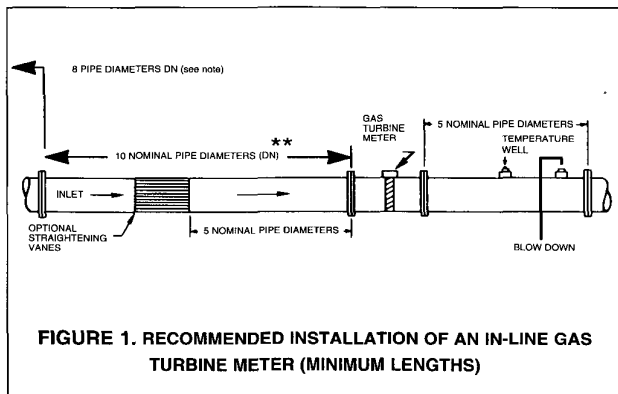

FIGURE 1. RECOMMENDED INSTALLATION OF AN IN-LINE GAS TURBINE METER (MINIMUM LENGTHS)
**1. Inline** - A minimum run of ten (10) pipe diameters (DN) of straight pipe must be used between any flow-altering device (other than flow throttling \*) and the inlet flange of the Turbo-Meter (see Figure 1). This inlet pipe should be nominally the same interior diameter as the meter body. Minor variations in the piping interior diameter due to use of piping with different wall thickness will not affect the meter accuracy. Inline straightening vanes located four or five pipe diameters